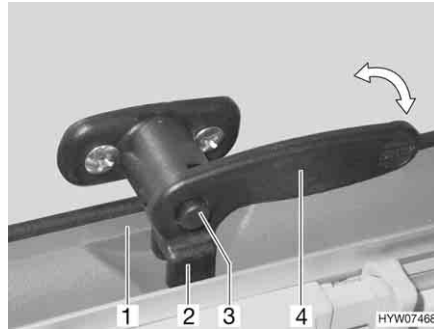

Fig. 73 Catch lever with safety knob in "closed" position
- If necessary, press the safety knob (Fig. 73,3) down and hold it.
- Turn the catch lever (Fig. 73,4) a quarter turn towards the centre of the window.